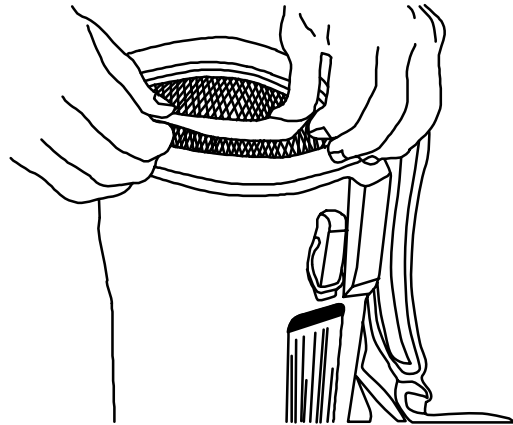

FIG. 15
2. Reinstall the cloth filter, making sure that the lip of the filter completely covers the rim of the vacuum (Figure 15).